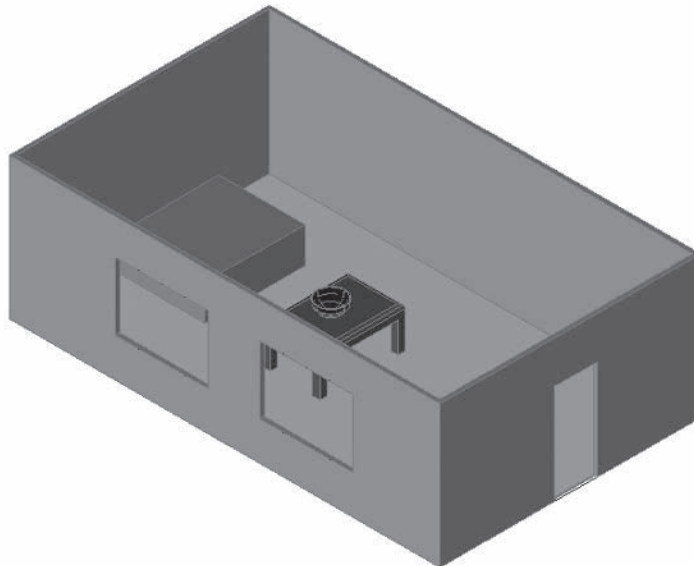

Fig. 47-13
1. Start with the model **table.dwg** and create the simple hotel room shown in Fig. 47-13. The following information will help you create each solid in the model.
- If necessary, scale, rotate, and move the table and bowl to match their appearance in Fig. 47-13.